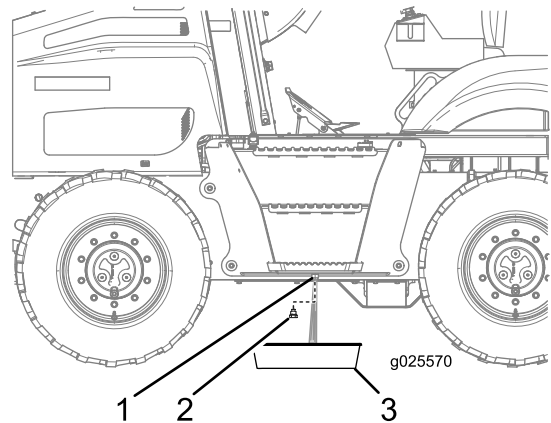

Figure 76
3. Unscrew the drain plug from the fuel tank and drain the water (Figure 76).
4. When clean fuel appears, install the drain plug and tighten it securely (Figure 76).